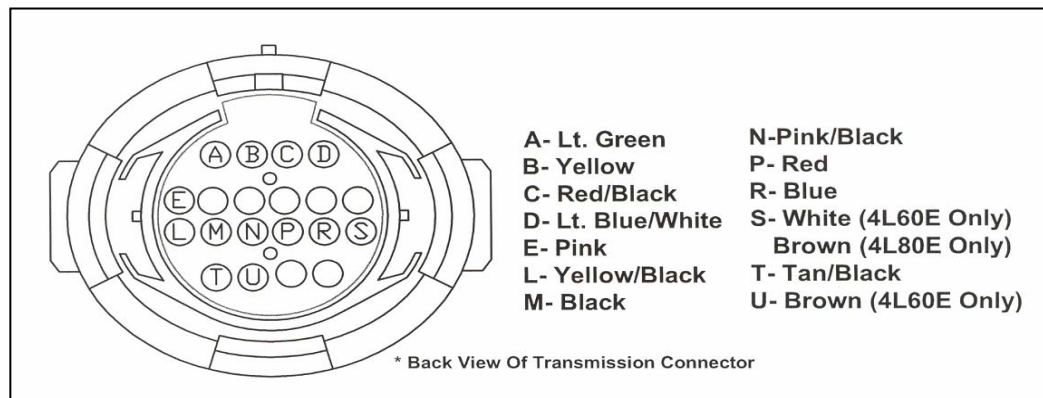

Figure 6.25 Transmission Connector Pin Out
***Note:** Harness numbers 60212, 60213, 60214, and 60215 have been wired for both the 4L60E and the 4L80E. All harnesses have the transmission connector pre terminated to allow use of the 4L60E transmission. In applications where a 4L80E is to be used, follow this procedure to change your transmission connector to ensure all functions of the transmission work properly. See Figure 6.25 for repining the transmission connector